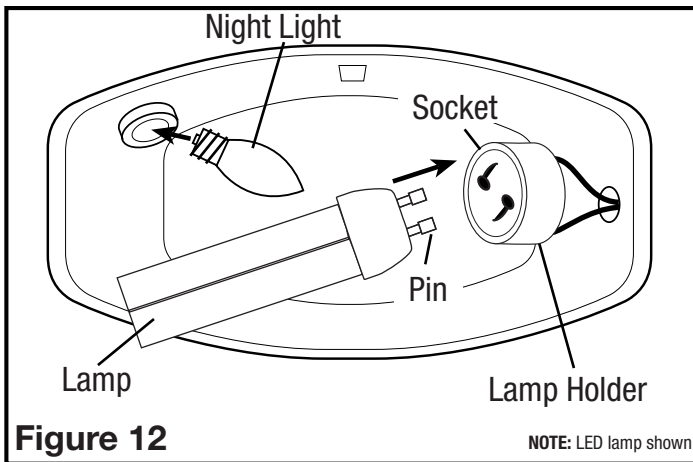
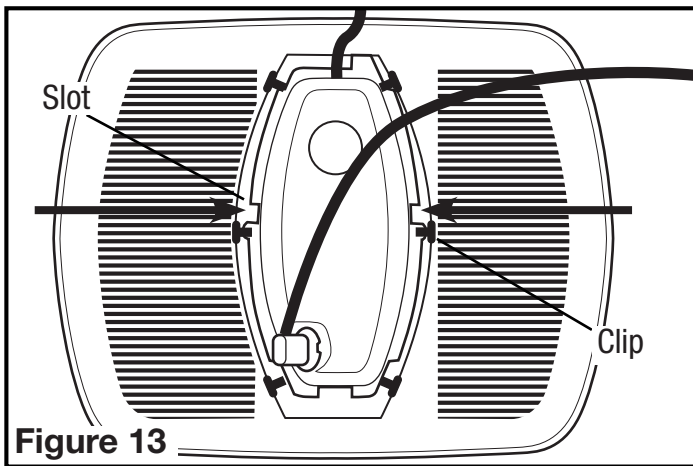

Figure 12
Figure 13
4. Install the included lamp into the lamp holder by lining up the pins on the lamp base to the socket of the lamp holder and turning the lamp body clockwise until the lamp snaps into place and is firmly seated in the lamp holder. Install a 4 watt maximum type C7 (candelabra base) night light (not included) into the side lamp holder (Figure 12).
5. Install the reflector onto the grill by placing the slots on the side of the reflector over the lens clips near the center of the grill. While squeezing the middle of the reflector, slide it so that the plastic notches rest under the lens clips and the reflector feels secure (**Figure 13**).
3. **Changing the Lamp:** Disconnect power to the unit. Remove grill by pulling downward on grill and squeezing grill springs together to release from housing (**Figure 13**). Remove Reflector from grill by sliding the reflector notches from beneath the lens clips on grill. (**Figure 12**).